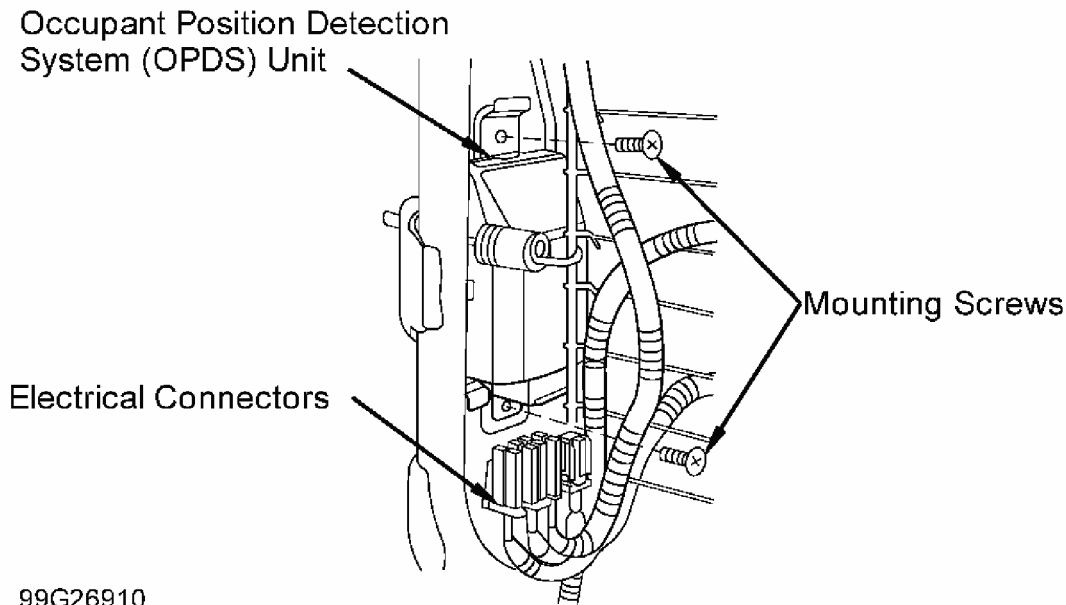

Fig. 20: Identifying Occupant Position Detection System (OPDS) Unit
4. Disconnect OPDS unit electrical connectors. See **Fig. 20** . Remove OPDS unit mounting screws and OPDS unit.